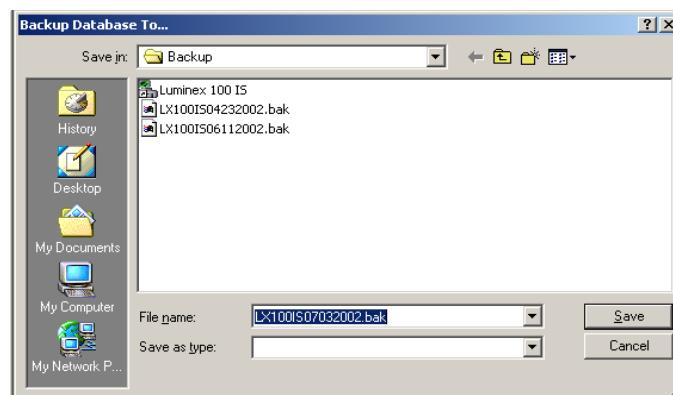

Figure B-18 Backup Database To... Dialog Box
1. On the Tools menu, click **Database Backup**. The **Backup Database To...** dialog box opens. See Figure B-18.